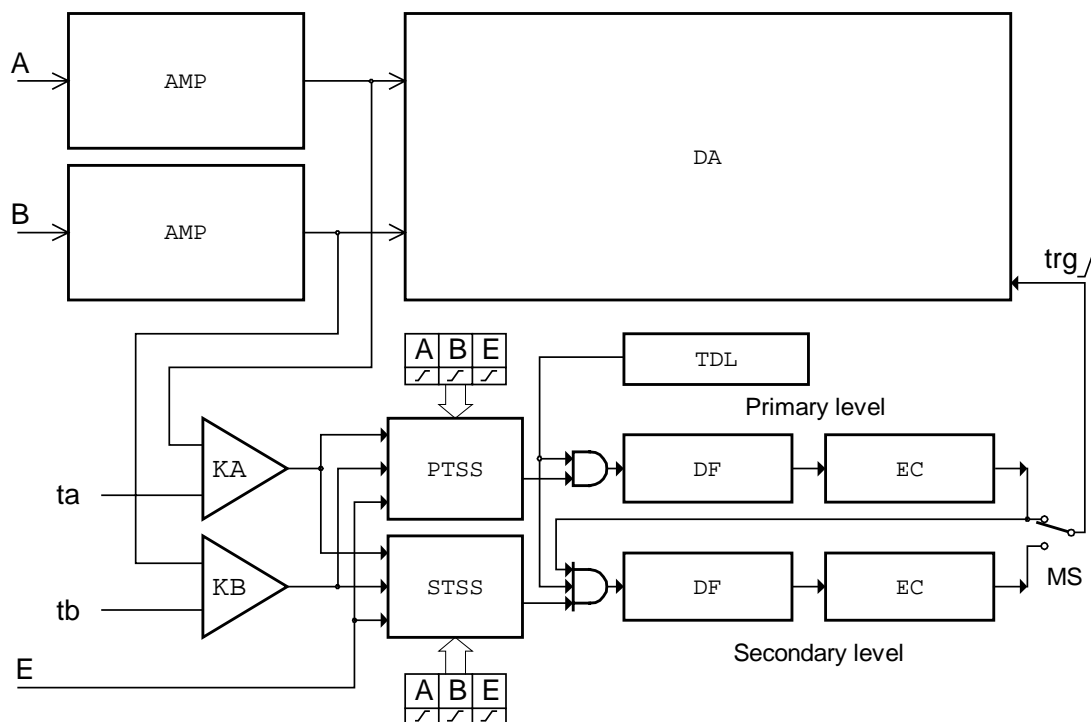

Fig. 2.1.2.1. – Block schematics of trigger circuits
The block schematics of the dual level trigger circuits are shown on the figure 2.1.2.1.
the output will be 0 (FALSE). The Trigger Source Selectors for each triggering level are independent. It is possible to select the source of triggering signal for each level independently. In addition to source selection, the PTSS and STSS can invert any of the input signal. The trigger event is generated with respect to change of the selector (PTSS, STSS) output signal from 0 (FALSE) to 1 (TRUE). Constant level of the signal cannot start the measurement. In case that only one of the signals is selected, trigger event is generated corresponding to the polarity, which is symbolically presented by direction of change of the signal. (0 to 1 means no inversion). When there are several inputs selected, the selector makes a logical addition (OR) of all of the selected inputs. Before adding the signals together, ones are adjusted with respect to the polarity settings. Trigger event is generated only when the change of result of the logical addition occurred from 0 to 1 (FALSE to TRUE). Logical values of the signals in the input of logical adder (OR) from which the trigger event is generated are created on the basis of following rules: value 0 (FALSE) is the value that selector input signal should have before valid trigger event. 1 (TRUE) is the value that this signal will have after the valid trigger event. For example, if triggering from Channel A is set to the trailing edge, then the output voltage of the channel is higher than the threshold voltage, consequent value on the adder input will be 0 (FALSE). Inverse situation will be taken as 1 (TRUE). Note that when using logical addition, all values must be 0 (FALSE) in order for result to be 0 (FALSE). It is relatively easy to find out which are the valid trigger events. Figure 2.1.2.2 shows several valid and invalid trigger events (all inputs are enabled).